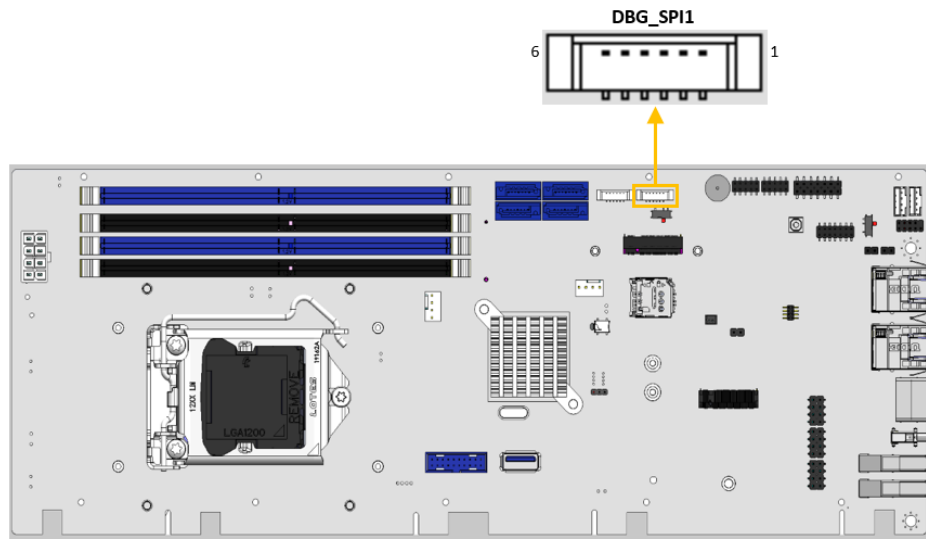

Figure 3-6: EC Debug Connector Location
- CN Location:** See **Figure 3-6**